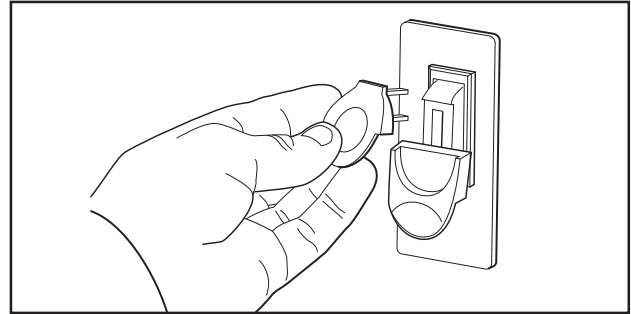

Figure 19. Disabling switch.
3. To disable the switch, remove the yellow key from the switch housing, as shown in **Figure 19**. Place the key in a safe place.